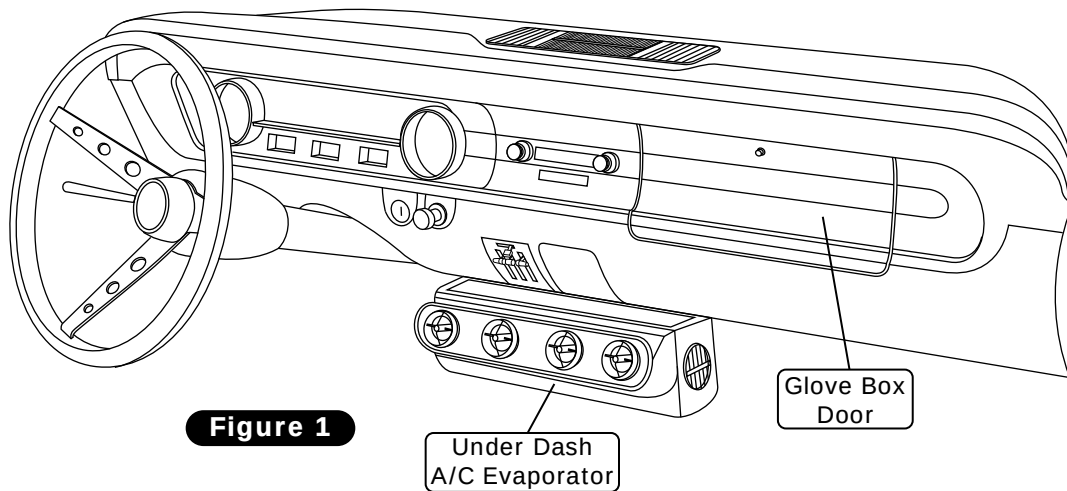

Figure 1
1. Remove glove box door (retain) (See Figure 1, below).
2. Remove glove box (discard) (See Figure 1, below).
3. Remove under-dash A/C evaporator (if equipped) (discard) (See Figure 1, below).